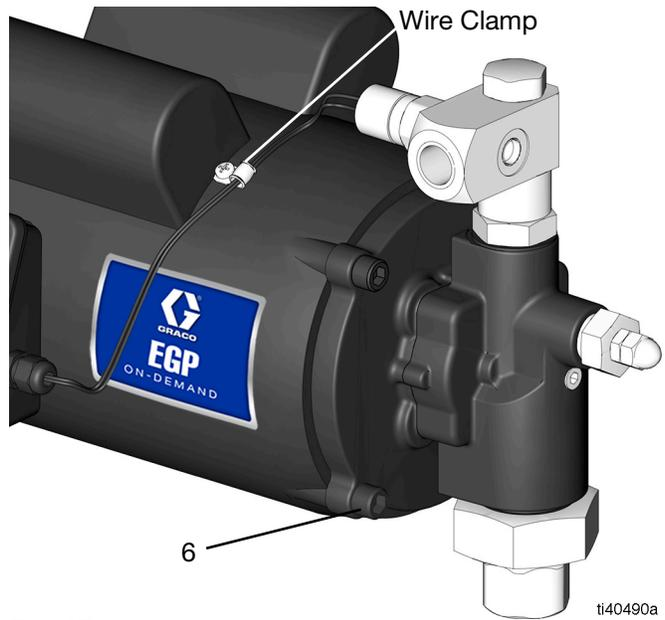

FIG. 17
12. Pull the pressure switch wire out of the wire clamp (FIG. 17).
13. Remove the four Allen screws (6) using a 5/16 in. (8 mm) hex wrench (FIG. 17).
2. Place and tighten the four Allen screws (6) using an 5/16 in. (8 mm) hex wrench (Torque 20 ft-lbs, 27.1 N•m) (FIG. 17).